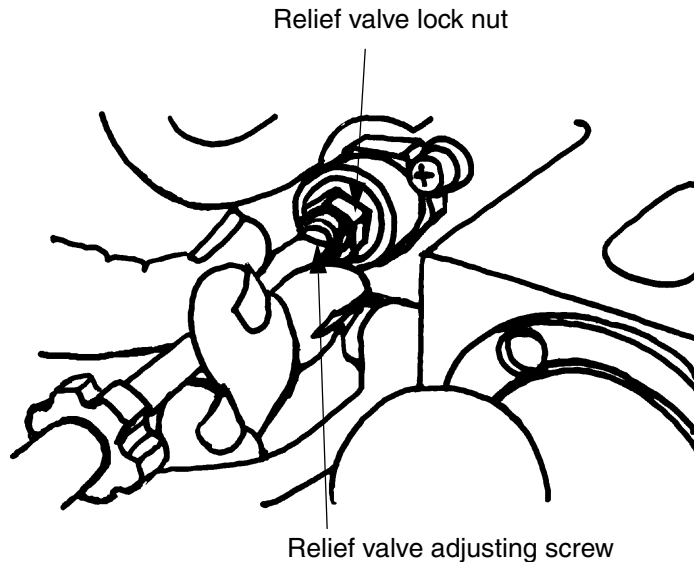

Figure 4. Relief valve adjustment
- c. Loosen relief valve locknut and, with a screwdriver, back out the adjusting screw until fluid flow can be heard. This will set the relief valve between 2,000 and 2,100 psi (13,789 and 14,479 kPa). (See also figure 4)